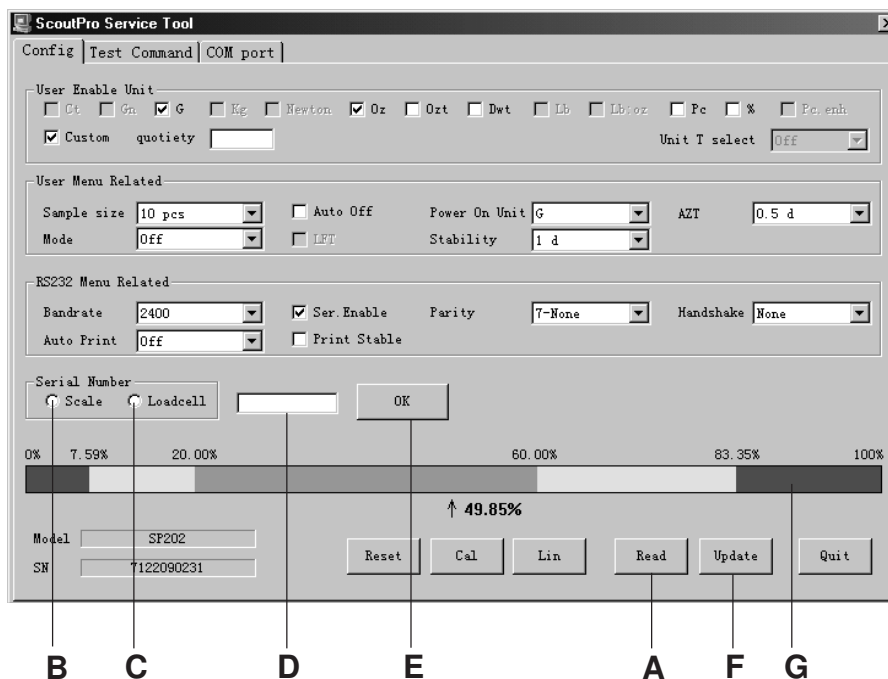

Figure A-7.
- When communications are reliable return to the **Config** tab. Press the read button (A) and the data will be read from the balance. See Figure A-7.